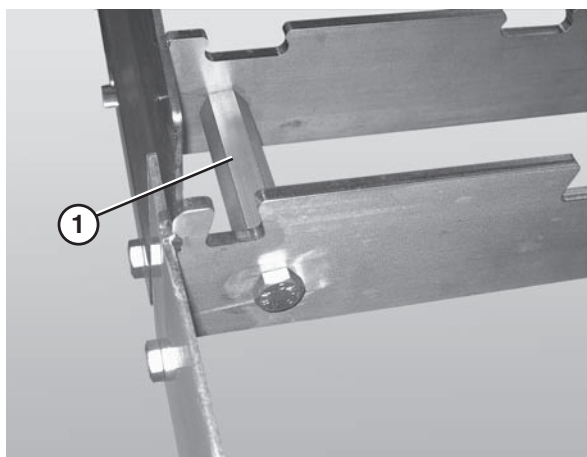

Figure 7
3. Connect the frame sections by bolting the hex post connectors (**Figure 7, item 1**) to the cross member supports of each frame section.